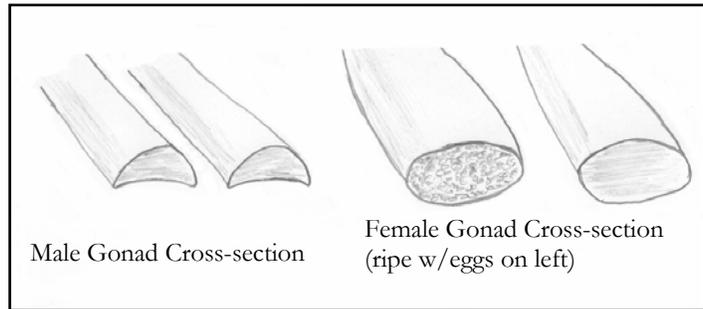

Figure 3 Rockfish gonad appearance
4. Female gonads will appear as white, pink, yellow or orange elongated tubes. As they mature they become oval-shaped and will have granular appearance. Female gonads are oval in cross-section. Males will be cream to pink in color. When mature they are triangular shape in cross-section; immature testes are still somewhat triangular and will have defined edges at the bottom (Figure 3).